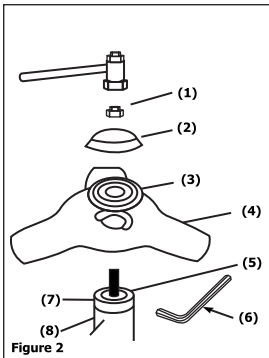

Figure 2
- (1) Bolt
- (2) Clamp
- (3) Main pipe
- (4) Safety guard
■ INSTALLING THE METAL BLADE (Figure 2)